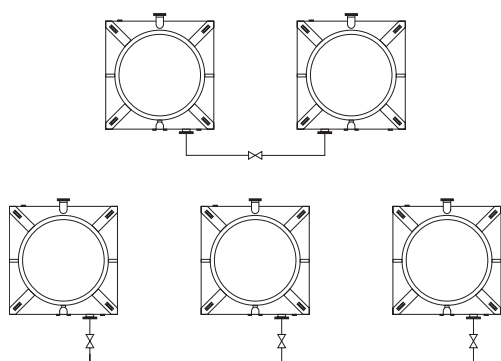

Figure A-99: Equalizer Line Installation
- Install an equalizer line between towers, to maintain the same water level at the basins (see Figure A-99). Table A-2 shows the recommended sizes for the Equalizer connections.